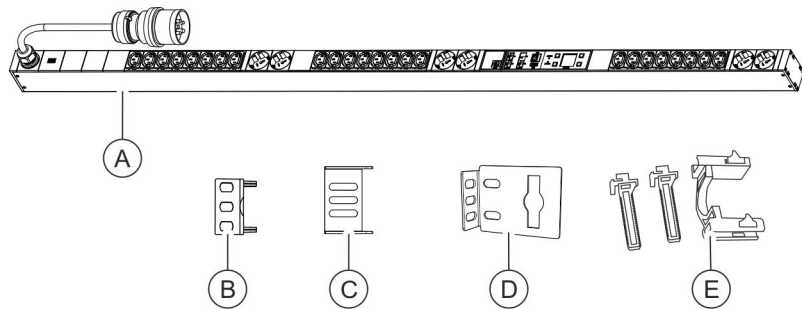

Fig. 12: Scope of delivery
- PDU (Fig. 12/A)
- Two plug-in brackets for mounting the PDU via the back (Fig. 12/B)
- Two plug-in brackets for mounting the PDU via the sides (Fig. 12/C)
- Two mounting brackets (Fig. 12/D)
- Two sets of plug interlocks (C13/C19) (Fig. 12/E)